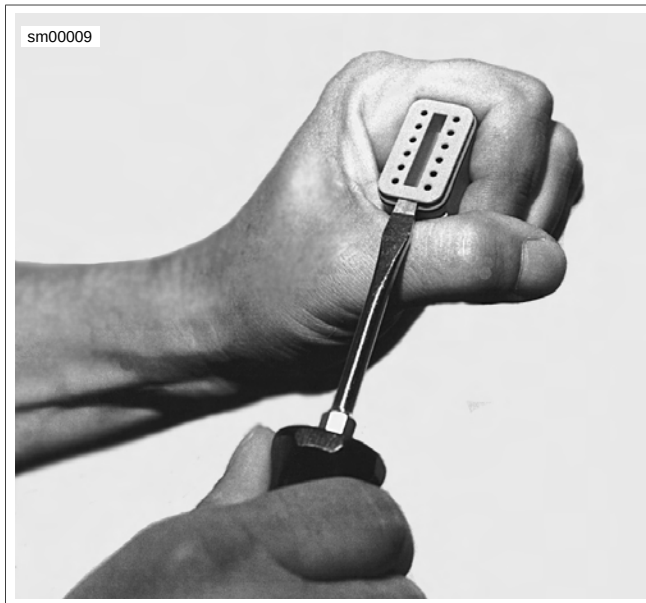

Figure A-27. Deutsch DT Sealed Connector: Remove Secondary Locking Wedge
1. See Figure A-27. Insert a small screwdriver between the socket housing and locking wedge in-line with the groove (in-line with the pin holes if the groove is absent). Turn the screwdriver 90 degrees to pop the wedge up and remove the secondary locking wedge.